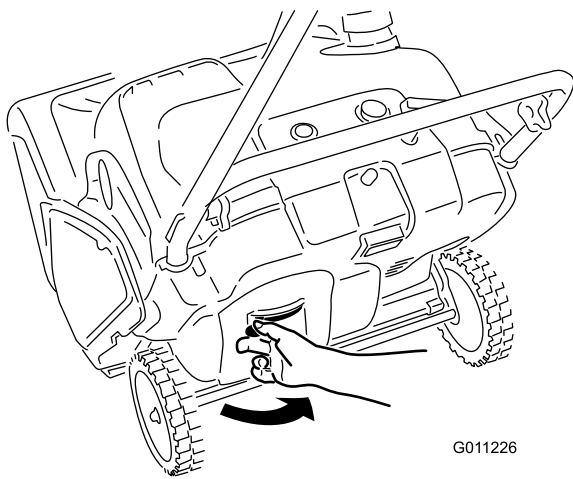

Figure 11
2. Move the choke lever to the right (Figure 11).